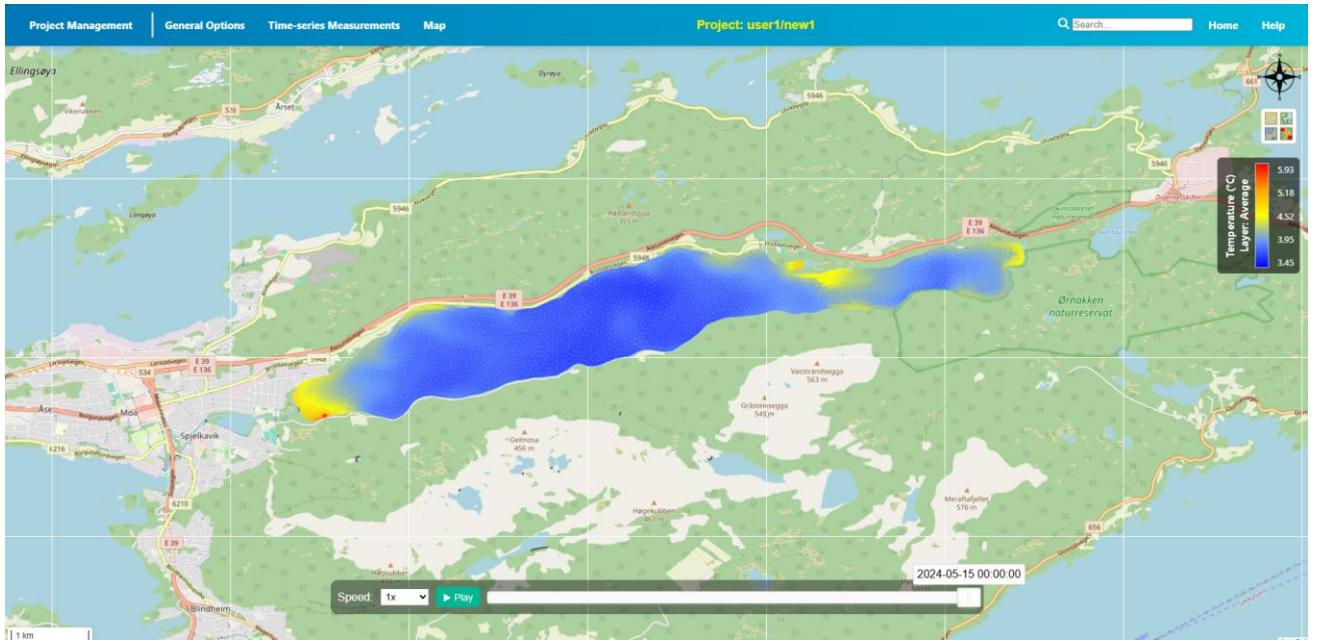
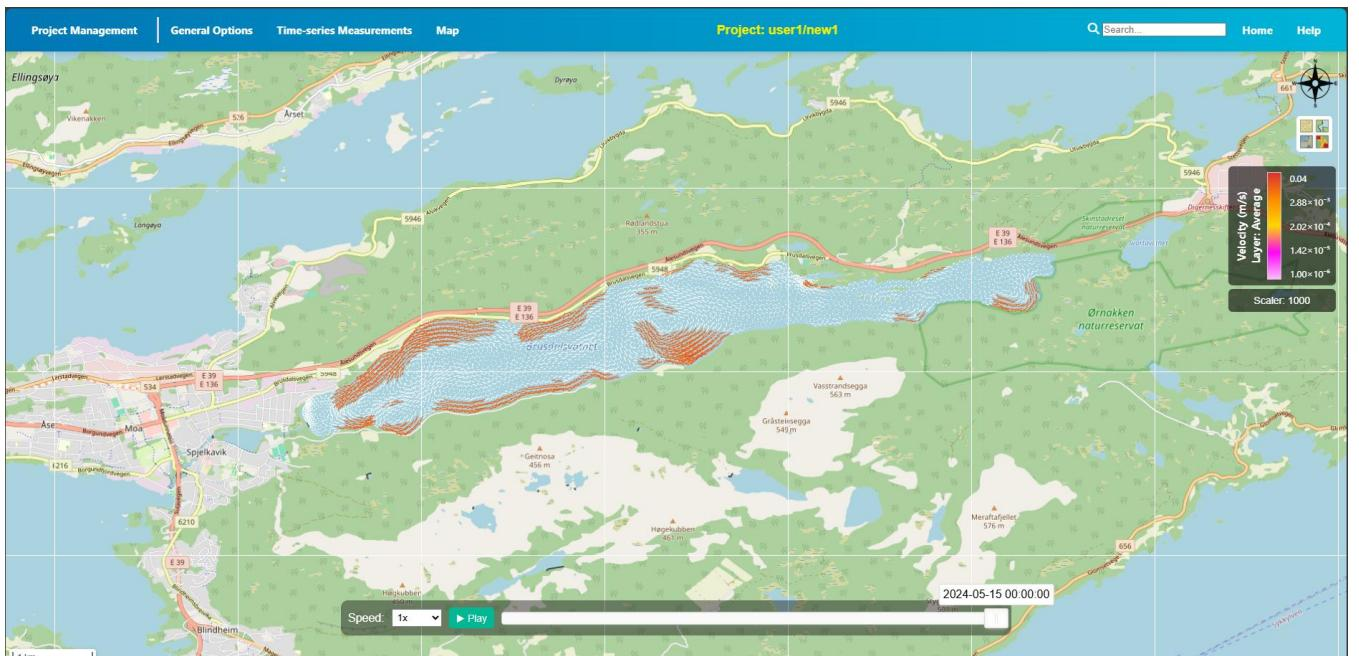
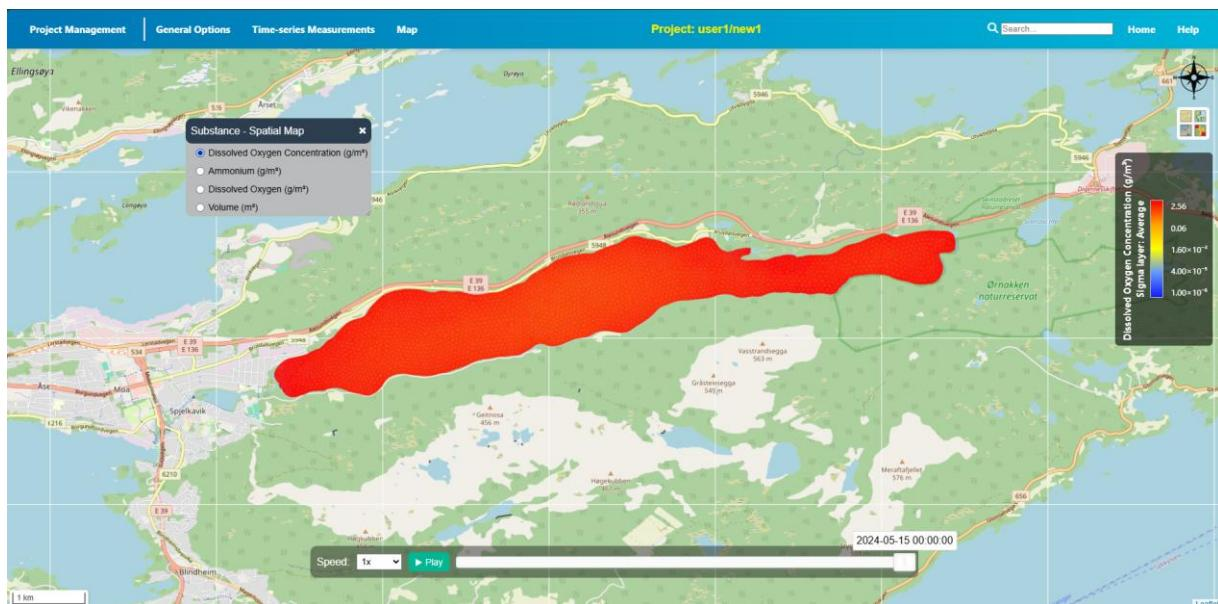
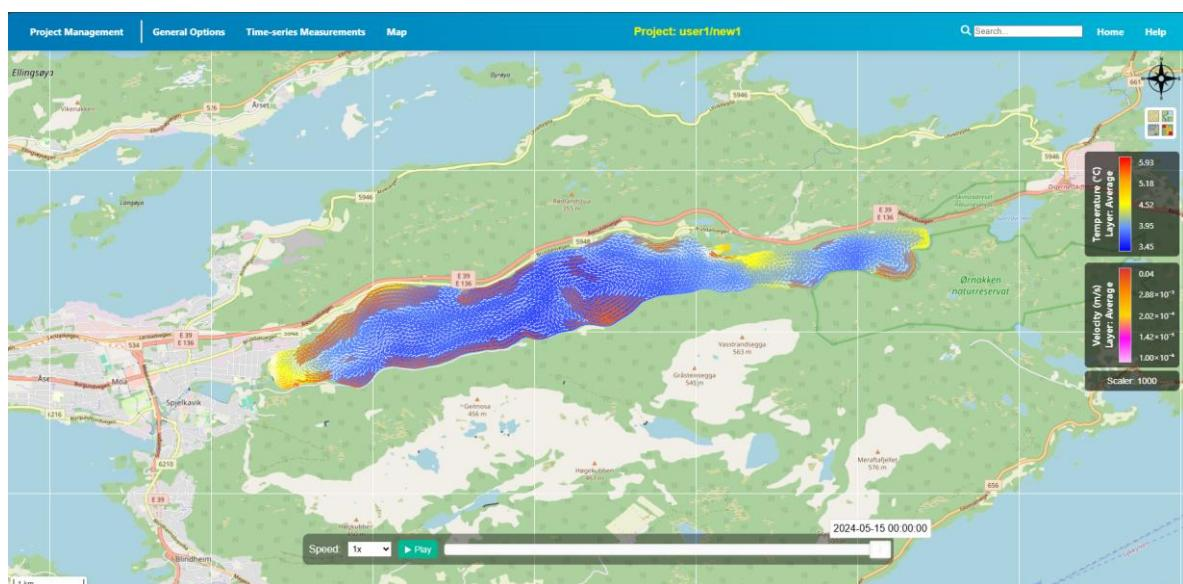

Figure 5.12a. Mutiple layer dynamic map for average temperature
Figure 5.12b. Mutiple layer dynamic map for average velocity
Figure 5.12c. Mutiple layer dynamic map for average simple oxygen (WAQ simulation)
Figure 5.12d. Mutiple layer dynamic map for average temperature and velocity
- One example of dynamic map for average value of temperature is shown in Figure 5.12a, velocity is shown in Figure 5.12b, average values for WAQ simulation is shown in Figure 5.12c, and combined map between average values of temperature and velocity is shown in Figure 5.12d.